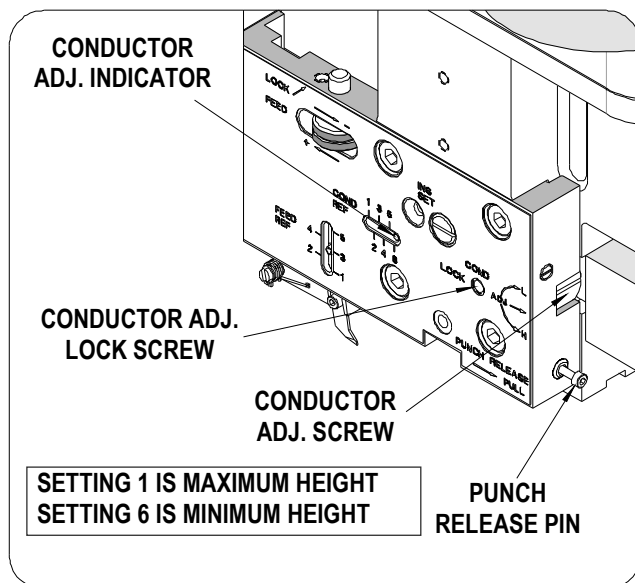

Figure 3-15 CONDUCTOR CRIMP HEIGHT ADJUSTMENT
4. Loosen the M6 conductor adjustment lock screw located on the front of the punch plate. See Figure 3-15.